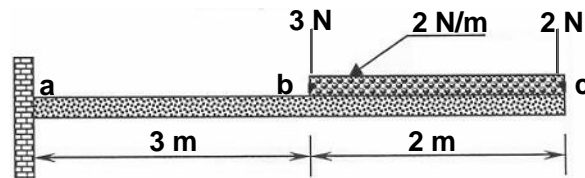

Figure 2
2.2 The following line diagram (**Figure 2**) represents a cantilever with two point loads as well as a distributed load of 2 N/m between the 3 N and 2 N forces.